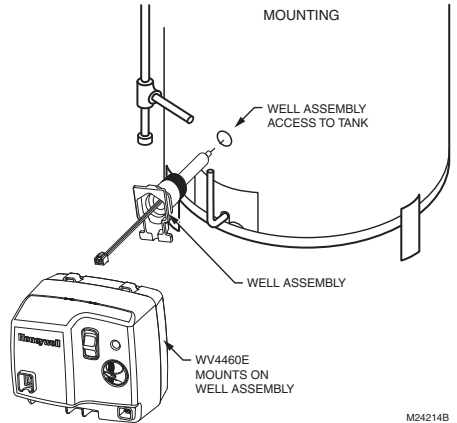

Fig. 3. Mounting the WV4460E on the water heater tank.
The WV4460E is mounted on the outside of the water heater tank. See Fig. 3.
3. Ensure that the 3-wire lead from the well assembly is properly in its channel, then position the valve bracket of the Control (with the inverted flare outlet facing down) over the sensor and well assembly bracket, then push in and down. (Refer to Fig. 3 for proper orientation of the Control to the sensor and well assembly.)